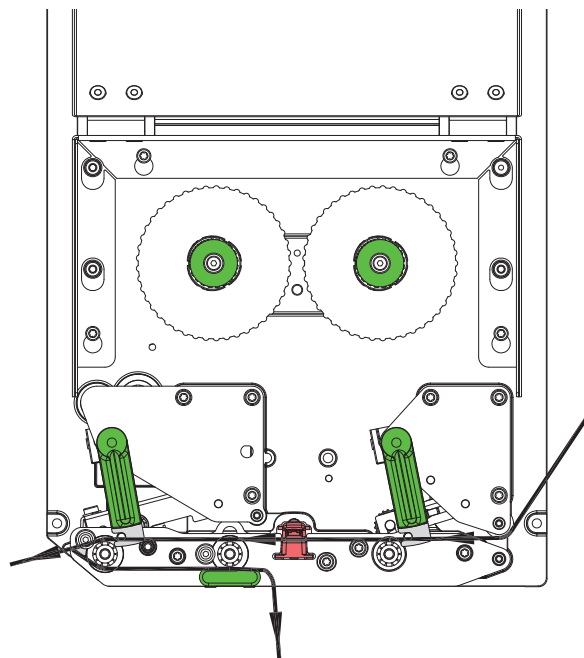

Fig. 6 Label feed path
2. Turn levers (3, 10) counterclockwise to open the printhead (1) and the backfeed system (9).
3. Move guide rings (4) outwards until the media can pass between the rings and the mounting plate.
4. Guide label strip (8) to the peel-off edge (2) as shown in the figure 6 and move to the mounting plate until it stops. The printing side of the label must be shown from above.
5. For peel-off mode forward the label strip over the peel-off edge, that the strip reaches back to the locking system (5). Remove the labels from the overhanging strip.
6. Turn levers (3, 10) clockwise to close the printhead (1) and the backfeed system (9).
7. Slide guide rings (4) against the label strip.